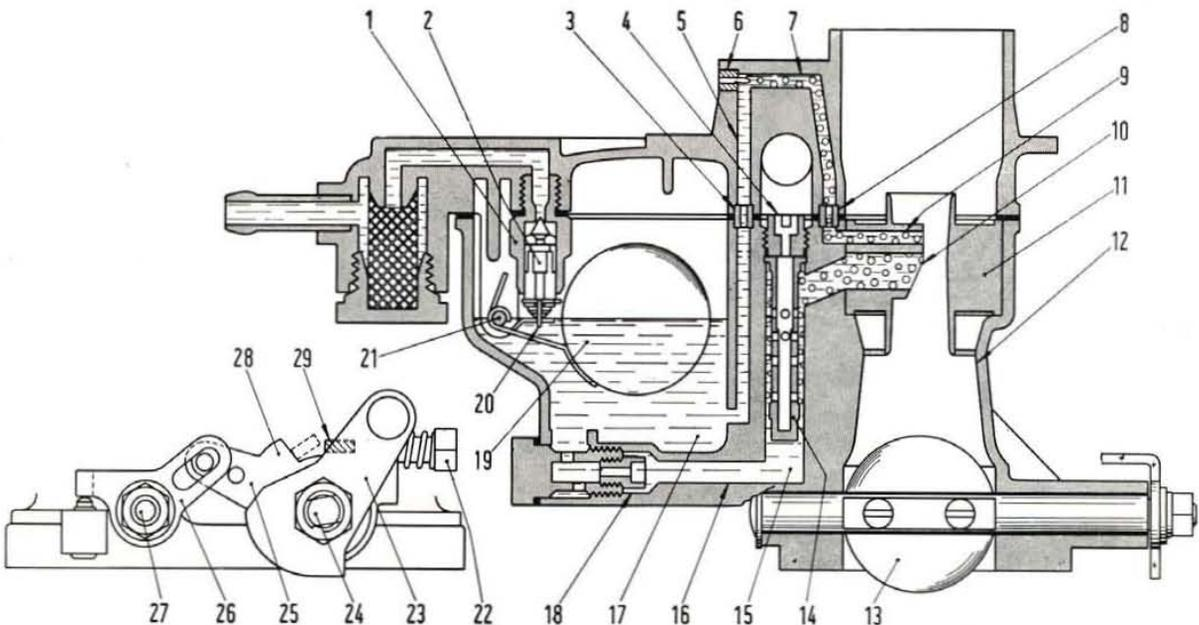

Fig. 431 - Diagrammatic section views of Weber 30 DIC 1 carburetor.
From the diagram in figure 431 it will be seen that the fuel flows past the needle valve (1) into the bowl (17), where the float controls the opening of the needle (2) and maintains a constant fuel level: the needle (2) is attached to the arm of the float (19) by means of the return hook (20).
Fig. 431 illustrates also the differential opening device of throttle valves.
While idling, the fuel is passed from the primary well (15, fig. 431) to the idling jet (31, fig. 435) where it blends with the air from the calibrated bushing. Hence, through the idling feed passage and orifice which can be adjusted by means of the screw (33), fuel reaches the primary throat downstream of the throttle (35, fig. 433) where mixture is also conveyed from the idle transfer port located in exact relation to the primary throttle, thus enabling the engine to accelerate evenly from the idling speed.
When the secondary throttle (13, fig. 431) is opened, the fuel flows from the secondary well (15) to the idling jet (31, fig. 435) where it blends with the air from the calibrated bushing and eventually